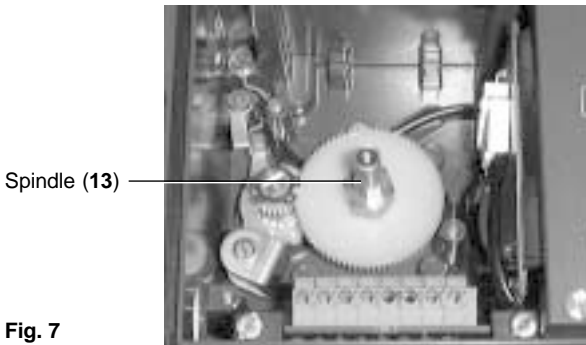

Fig. 7
- 2.3.5 Screw new spindle (13) onto existing central pin (refer to Fig. 7) using a 7 mm spanner.